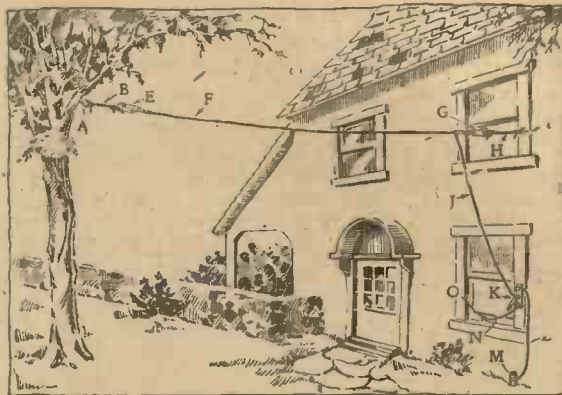

Fig. 1.—The Aerial and its Supports and Connections.
*Types of Aerials.*—(1) Single-wire aerial having a short lead-in, such as is shown in Fig. 1; (2) single-wire aerial having a long lead-in (Fig. 2); (3) double-wire aerial having a short lead-in (Fig. 3); and
**The Aerial, Lightning Switch, and Earth Connections.**—The aerial is simply a wire suspended between two elevated points, and should not be less than 30 feet above the ground with a length of about 75 feet. (See Fig. 1.) It is not important that it be strictly horizontal. It is, in fact, desirable to have the far end as high as possible. The lead-in wire from the aerial itself should run as directly as possible to the lightning switch. If the position of the adjoining buildings or trees is such that the distance between them is greater than about 85 feet, the aerial can still be held to a 75-foot distance between the insulators by increasing the length of the piece of rope (B) to which the far end is attached. The rope (H) securing the aerial insulator to the house should not be lengthened to overcome this difficulty, because by so doing the lead-in wire (J) would be lengthened.
The parts will be referred to by reference to the letters appearing in Figs. 1 and 2.
E and G are two insulators which may be constructed of any dry hard wood of sufficient strength to withstand the strain of the aerial; blocks about  $1\frac{1}{2}$  in.  $\times$  2 in.  $\times$  10 in. will serve. The holes should be drilled, as shown in Fig. 1, sufficiently far from the ends to give proper strength. If wood is used the insulators should be boiled in paraffin wax for about an hour. If porcelain wiring cleats are available they may be substituted instead of the wood insulators. If any unglazed porcelain is used as insulators, it should be
boiled in paraffin wax in the same way as the wood. The wire for the aerial may be No. 14 or 16 copper wire either bare or insulated. The end farthest from the receiving set may be secured to the insulator (E) by any satisfactory method, being careful not to kink the wire. Draw the other end of the wire through the other insulator (G) to a point where the two insulators are separated by about 75 ft.; twist the insulator (G) so as to form an anchor as shown in Fig. 1. The remainder of the wire (J) which now constitutes the lead-in or drop-wire should be just long enough to reach the lightning switch.